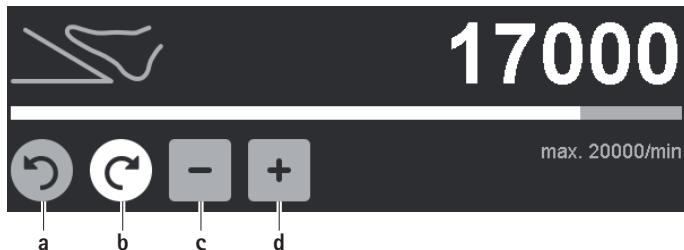

Fig. 6 Changing the maximum speed setting/rotational direction
- Change direction of rotation (except for drill tool GA844): Actuate the inactive, grey clockwise/counter-clockwise rotation button **a/b**, see Fig. 6.